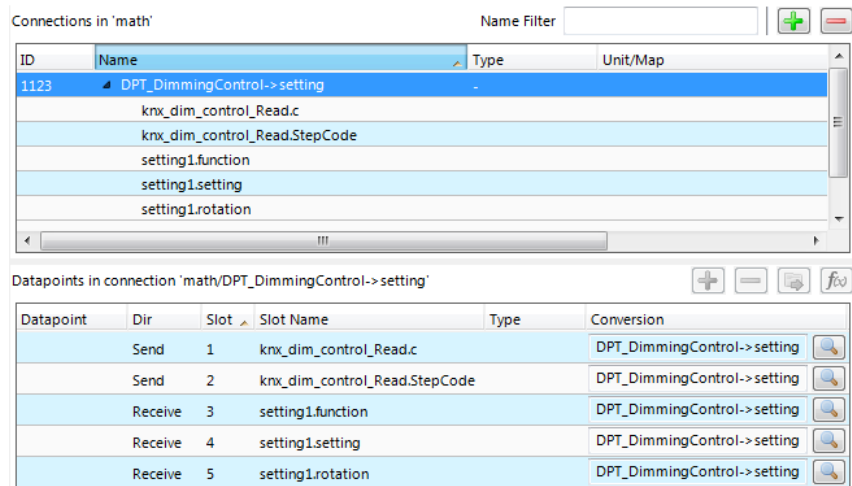

Figure 214: Created new multi-slot connection from math adaptor.
3. In the dialog **Select Multi-Slot Math Adaptor** select an existing adaptor and click **Select**. A new multi-slot connection is added to the connection list with empty slots as depicted in Figure 214.